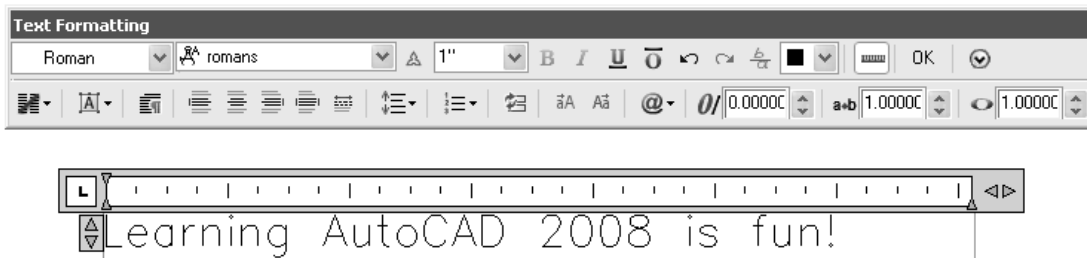

Figure 2-4.3 Mtext; text typed in text editor window; Text Formatting toolbar displayed
6. In the *Mtext Editor* you will type the following text (Figure 2-4.3): **Learning AutoCAD 2008 is fun!**
7. When finished typing text, click the **OK** button on the floating *Text Formatting* toolbar shown in Figure 2-4.3 above.
Your text should look similar to Figure 2-4.3. Text can be Moved and Rotated with the tools on the *Modify* toolbar.
With the Mtext Editor open (Figure 2-4.3), you can Copy/Paste text in from other programs such as MS Word. Most of the formatting (e.g., font, bold, underline, etc.) will be preserved.